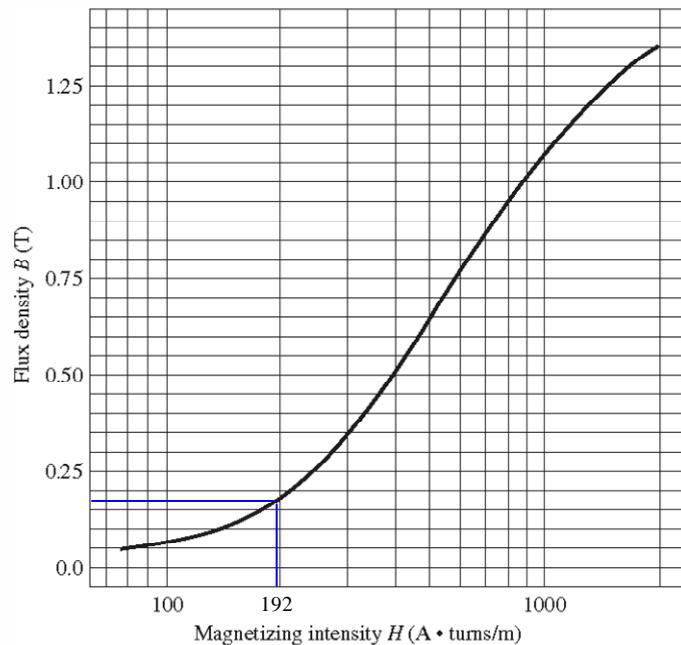

FIGURE P1-9
- 1-12.** The core shown in Figure P1-4 is made of a steel whose magnetization curve is shown in Figure P1-9. Repeat Problem 1-7, but this time do *not* assume a constant value of μ_r . How much flux is produced in the core by the currents specified? What is the relative permeability of this core under these conditions? Was the assumption in Problem 1-7 that the relative permeability was equal to 1200 a good assumption for these conditions? Is it a good assumption in general?